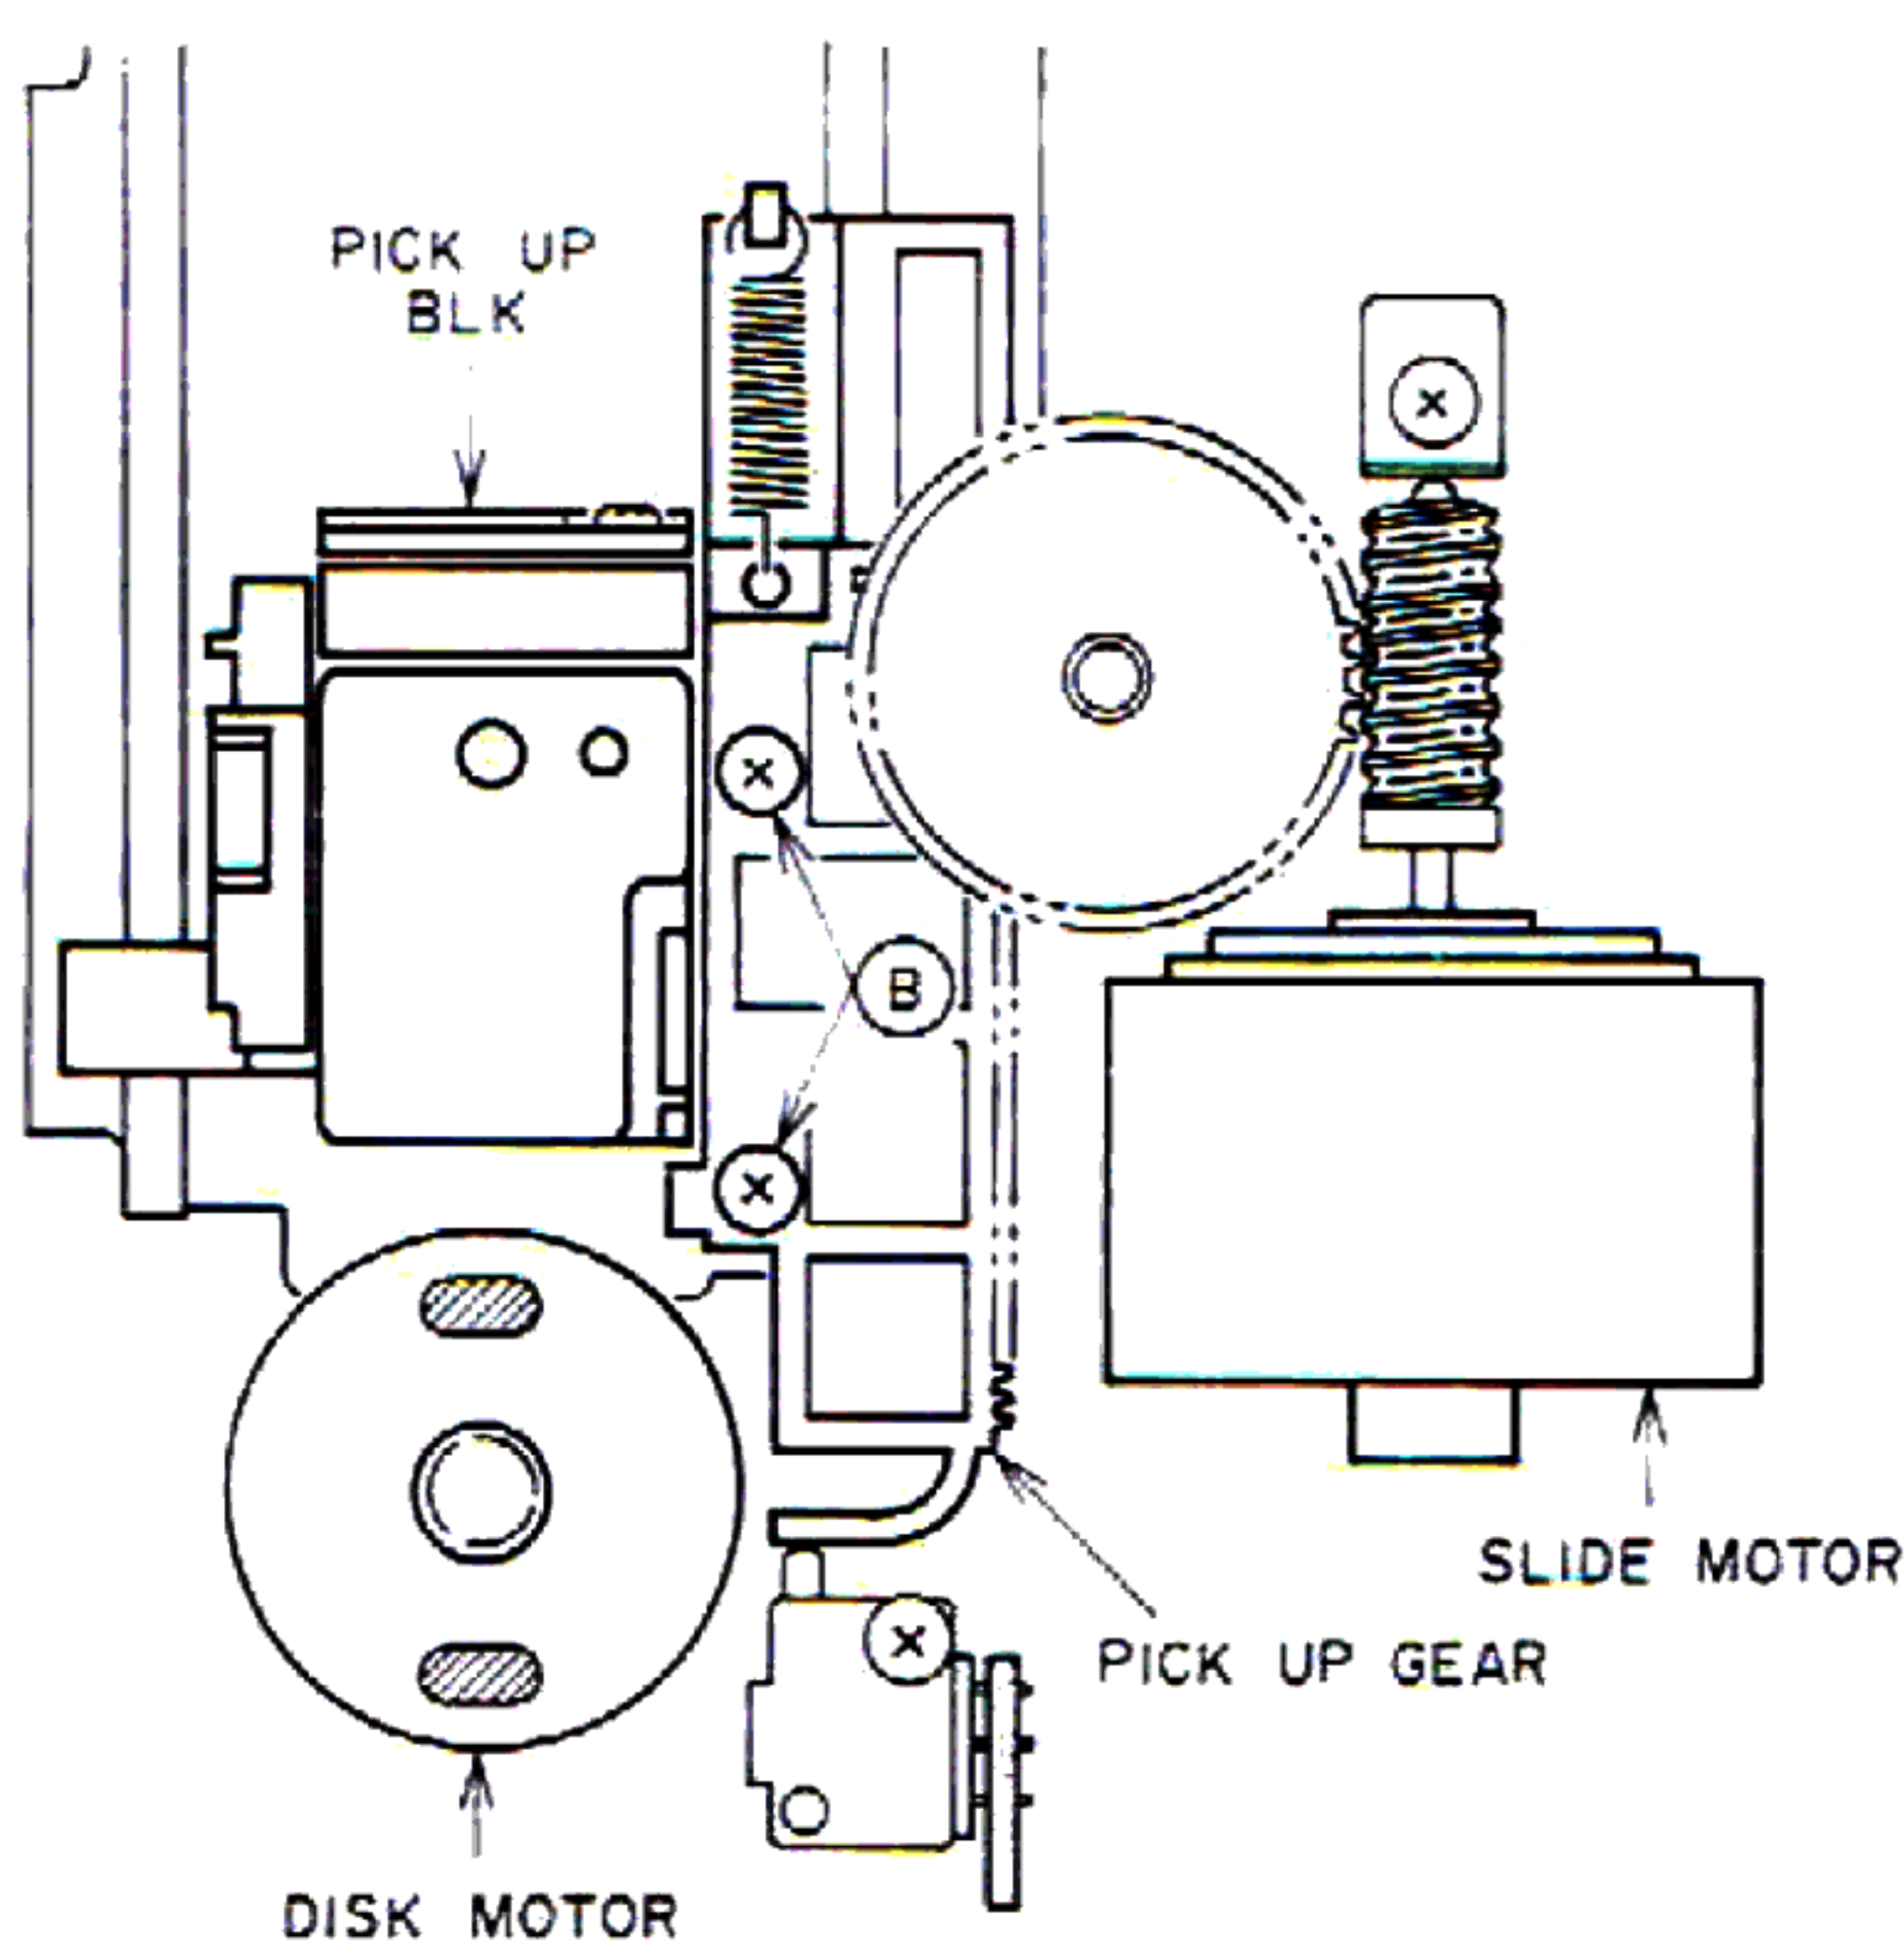

Fig. 4-3
- 4) Loosen two pick-up fixing screws (B), remove the pick-up gear. (Refer to Fig. 4-3)